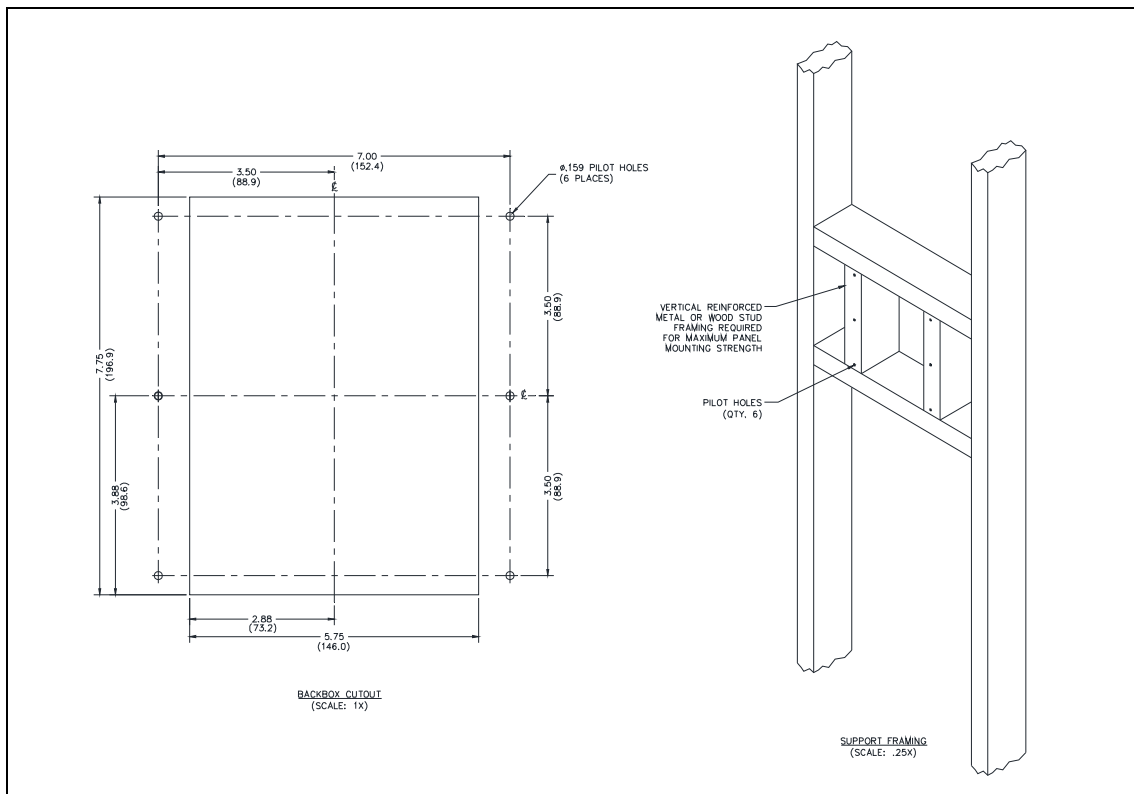

Figure 18. Cutout and Framing Support Detail for Models 276-712BH/-712BHAC
**NOTE:** See the cutout and support framing detail for installation planning (see Figure 18).